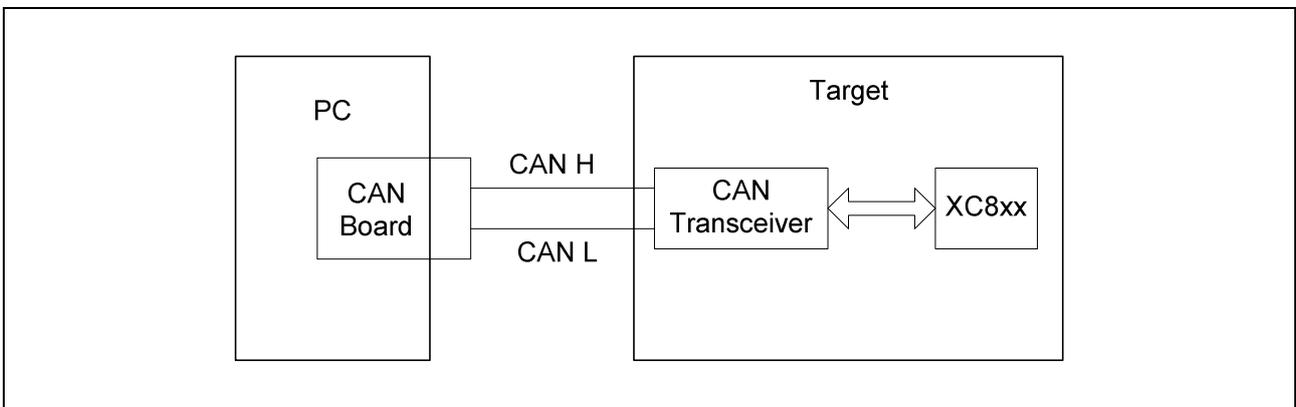

Figure 4 The connection between a PC with CAN board and a target system with CAN transceiver for CAN BSL programming.
- Figure 4 shows the connection between a PC with CAN Interface board and a target system with CAN transceiver, where FLOAD uses CAN BSL for programming. In this case, the user should check the "Use CAN Board" under the "Option" menu.